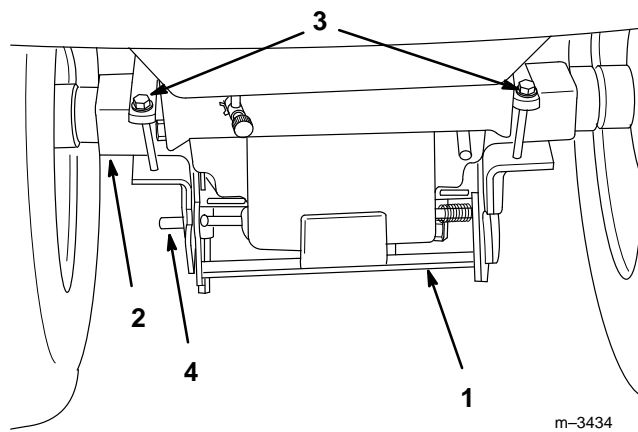
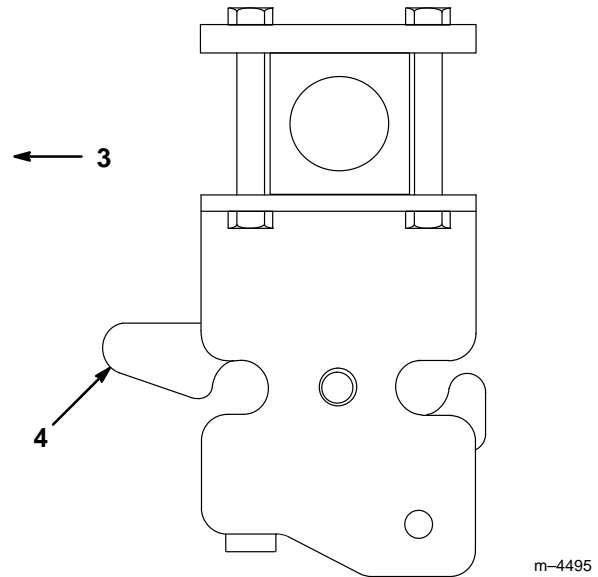

Figure 2
Figure 3
3. Place the Attach-A-Matic™ under the rear axle (Fig. 2), and rotate the mounting brackets over the top of the axle to hold the Attach-A-Matic™ in place.
6. When mounting an attachment to the rear Attach-A-Matic™, press on the release button (Fig. 2) and open the latches. Connect the attachment into the Attach-A-Matic™, then close the latches (Fig.3). Make sure the release button snaps back out and locks the latch in place, after closing it.